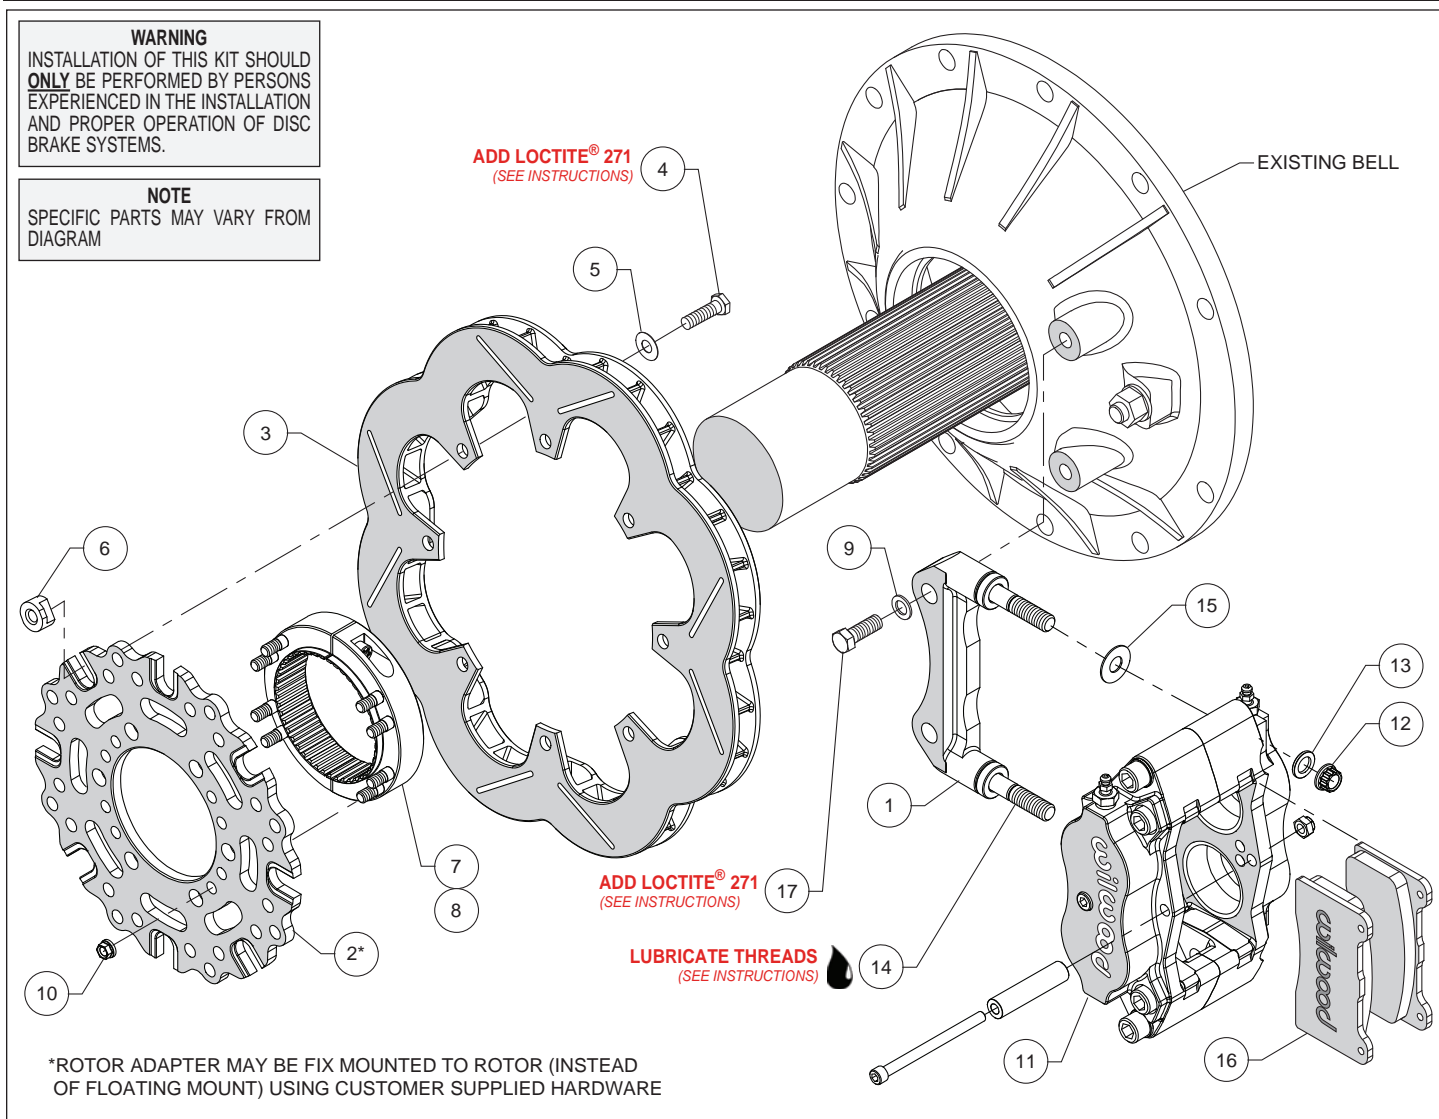

Figure 1. Typical Installation Configuration
• Orient the caliper mount bracket (1) as shown in Figure 1 and install using bolts (17) and washers (9). Temporarily tighten the mounting bolts. **NOTE: The bracket must fit squarely against the mount bosses on the bell.** Inspect for interference from casting irregularities, machining ridges, burrs, etc. Remove the bracket mounting bolts one at a time, apply red *Loctite*[®] 271 to the threads, and torque to 60 ft-lb.
• Orient the rotor adapter (2) and the rotor (3), as shown in Figure 1, and attach using bolts (4), washers (5), and t-nuts (6), Figure 1. Apply red *Loctite*[®] 271 to the bolt threads before installing. Finger tighten. After all t-nuts have been installed, torque bolts in an alternating sequence to 220 **in-lbs**. Please refer to Wilwood's data sheet DS-669 (available at www.wilwood.com/Pdf/DataSheets/ds669.pdf) for complete t-nut bolt kit installation instructions. **NOTE: Rotor adapter may be fix mounted to rotor (instead of floating mount) using customer supplied hardware.**
- Orient the axle clamp assembly (7 and 8, pre-assembled) as shown in Figure 1 and install onto the rotor adapter (2) using nuts (10). Tighten nuts part way while still allowing clamp-to-rotor movement. The nuts will be final tightened later, after aligning the rotor. **NOTE:** *The axle clamp should be positioned inside of the rotor as shown in Figure 1, not offset, or outside of the rotor adapter.*
- Lubricate the caliper mounting studs (14) with lightweight oil. Initially place one .030" thick shim (15) on each stud as shown in Figure 1. Mount the caliper (11) onto the bracket (1) using lock nuts (12) and washers (13), Figure 1. Temporarily tighten the lock nuts (12) and view the rotor through the top opening of the caliper. The rotor should be centered in the caliper. If not, slide the rotor/adaptor assembly on the axle until the rotor is centered in the caliper. Tighten the clamp nuts first, locking the clamp to the axle. Torque nuts (10) to 140 **in-lbs**.
- Remove the caliper center bridge pad retainer bolt, nut, and tube from the caliper. Insert the brake pads (16) into the caliper, with the friction material facing the rotor. Check that the top of the brake pad is flush with the outside diameter of the rotor. If not, adjust by adding or subtracting shims (15) between the caliper and the bracket. After the caliper pad height is set, torque the caliper lock nuts (12) to 30 ft-lb. Secure the brake pads in place with the center bridge pad retainer tube, bolt, and locknut. The locknut should be snug without play in the bolt or tube. Be cautious not to over tighten.